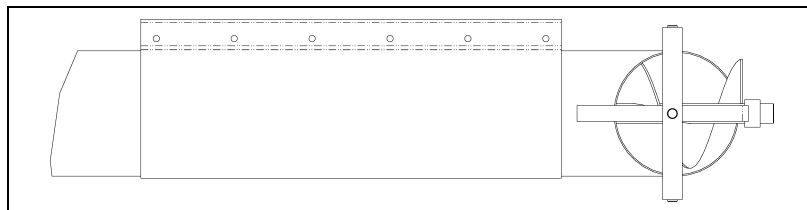

Figure 5BE
8. Install the auger gimbal boot and ring to the discharge chute and gimbal mount. Be sure the plastic thrust washer is positioned between the large ring and the lower support pad. Complete by installing the snap ring to the top ring stud. (See Figure 5BF.)